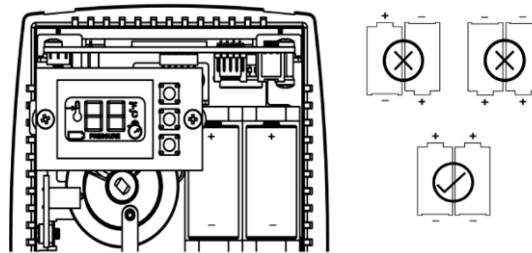

Figure 7. WPT Batteries
8. Install the batteries and close the top cover. The battery polarities are as shown in Figure 7.
Replace battery with Type CR123A, that meet UL-1642, as evidenced by UL component recognition mark, only (from Panasonic, Energizer or Duracell). Use of any other battery may present a risk of fire or explosion. See Figure 7 for correct polarity.